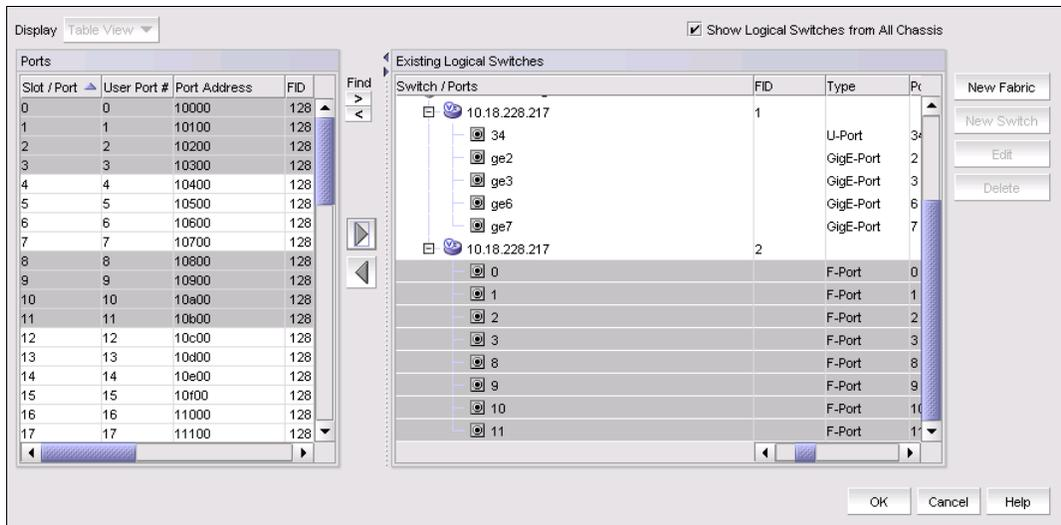

Figure 6-11 Assign ports for logical switch ITSO_7840_SiteA_FID2
- Assign ports for the logical switch ITSO_7840_SiteA_FID2 (Figure 6-11). The FC ports that are connected to V7000 storage system should be assigned to the logical switch. Click **OK** to confirm these configurations. The creation of the logical switch ITSO_7840_SiteA_FID2 is completed.